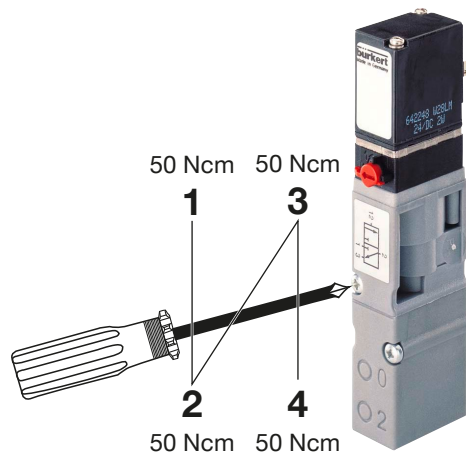

Fig. 34: Tightening the screws when replacing valves Type 6526 and Type 6527
- Tighten the fastening screws crosswise, paying attention to the tightening torque (see Fig. 34).